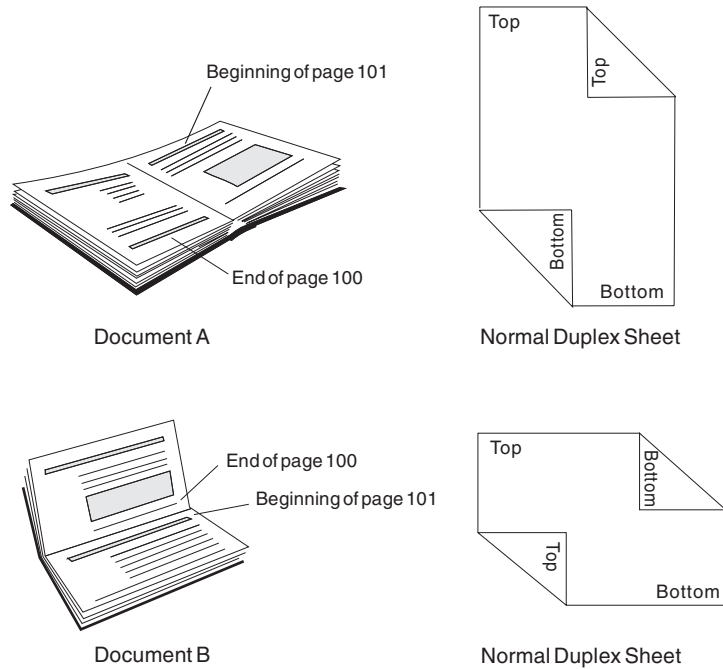

Figure 23. Duplex Documents A and B, Specified as Normal Duplex
- If the sheets are to be bound on the long edge of the paper, as Document A and Document B are in Figure 23 on page 57, specify *normal duplex*.
Figure 23 shows Document A and Document B printed with normal duplex. Notice that the pages are printed in the *portrait position* for Document A and in the *landscape position* for Document B.